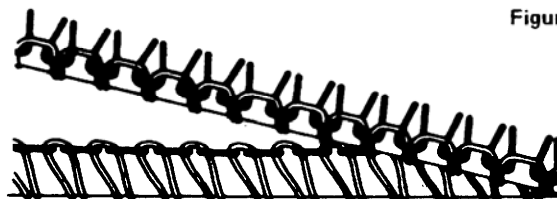

Figure 36
- (2) When the tension of the upper thread is too heavy (Figure 36), loosen the upper overedging thread tension adjuster. When the stitching seams appear as shown in Figure 37, the tensions are satisfactory.